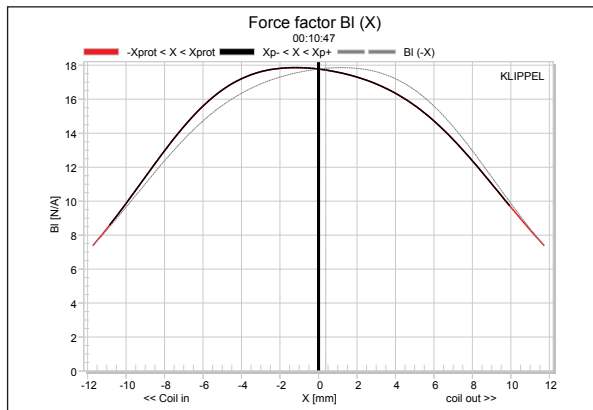
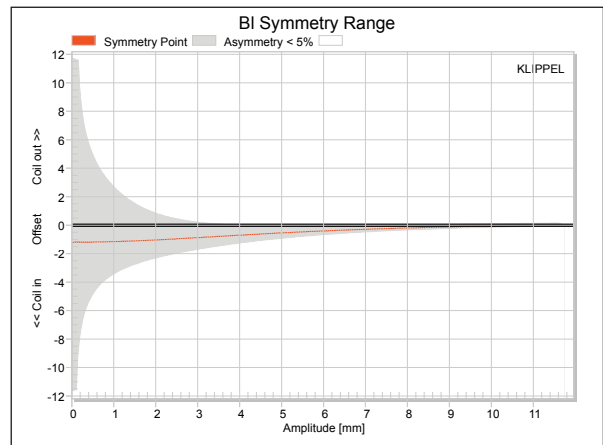

Figure 23: Klippel analyzer BI(X) curve for the Volt RV3143
Figure 24: Klippel analyzer BI symmetry range curve for the Volt RV3143
Klippel analysis for Volt RV3143 produced the BI(X), Kms(X) and BI and Kms symmetry range plots given in **Figures 23–26**. The BI(X) curve (see Figure 23) is mostly symmetrical with some tilt, and is typical of a moderate Xmax driver. As you can see, there is a small amount of coil-in rearward offset. Looking at the BI symmetry plot (see Figure 24), this curve shows a